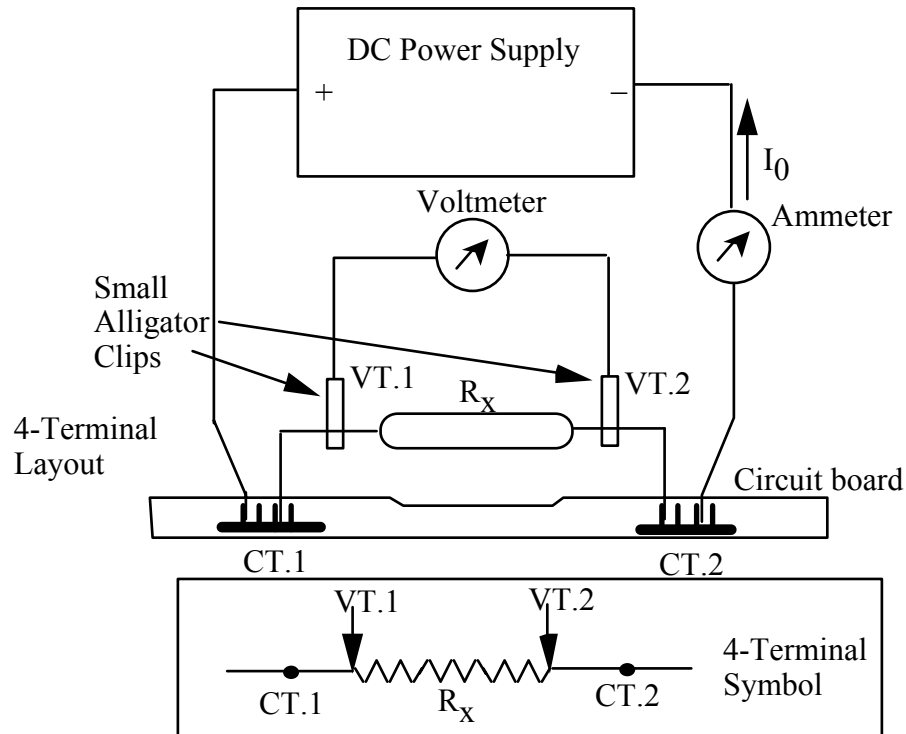

Fig 2.2 4 terminal connections: physical and symbolic
Typically, when we wish to measure the resistance of an element we can simply connect the element between the two leads of a DMM and read “Ohms”. With the modern digital DMM this works quite well unless the resistance of the element to be measured is small - not very much higher than the resistances of the leads or contact resistances between the sample and the leads (probably less than an ohm for your leads). If the element’s resistance is not much higher than the leads, then the lead resistance will make a sizeable impact on the measurement, skewing it badly. The way around this is to use the method of 4-terminal connections, in which the current leads are separate from the voltage leads. A schematic is shown in figure 2.2. A known large current passes into and out of the sample from CT1 to CT2. The voltage across the sample is measured at VT1 and VT2. Since there is essentially no current flowing through VT1 and VT2 there is also no voltage drop across them, even if they are of a sizeable resistance. Ohm’s law is then used to determine the resistance of the sample.
4. Consider the basic Wheatstone bridge of Fig 2.2, Assume that the bridge has been balanced so that a resistance  $R_{x0}$  gives a potentiometer setting  $S_0$ . Now leave the potentiometer alone, but let the unknown resistance change by a small amount  $\Delta R_x$ . Show that, as a consequence, the null-meter will measure an (approximate) unbalanced potential difference
6. Determine the resistivity of copper by measuring the resistance of the sample and its dimensions. Use 4-terminal connections (Fig 2.2) and measure the voltage drop along the sample to find the resistance. When measuring the diameter of the wire remember that the thickness of the enamel coating is not completely negligible.